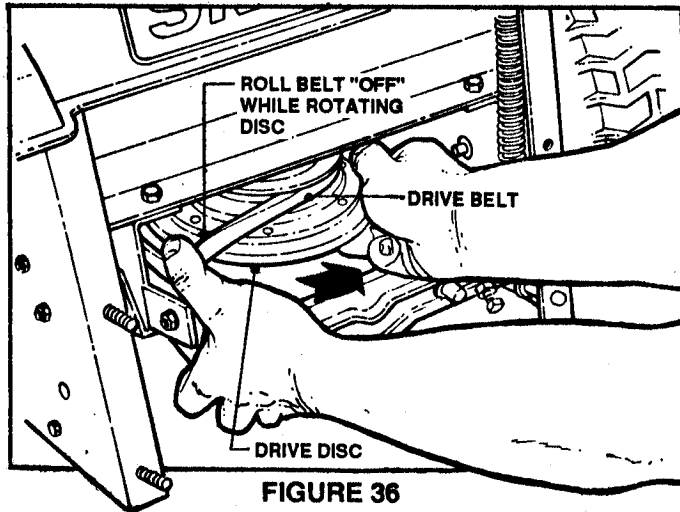

FIGURE 36
9. Working at the rear of the mower, rotate the DRIVE DISC while holding down on the DRIVE BELT until belt is clear of disc. See Figure 36.